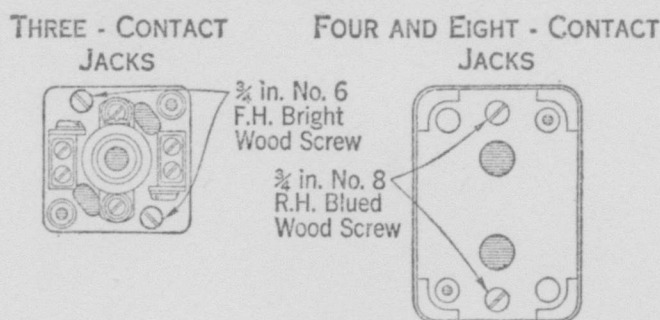

Fig. 1.
5.04 Attach non-flush type jacks to wooden mounting surfaces as shown in the following typical illustrations, Fig. 1.